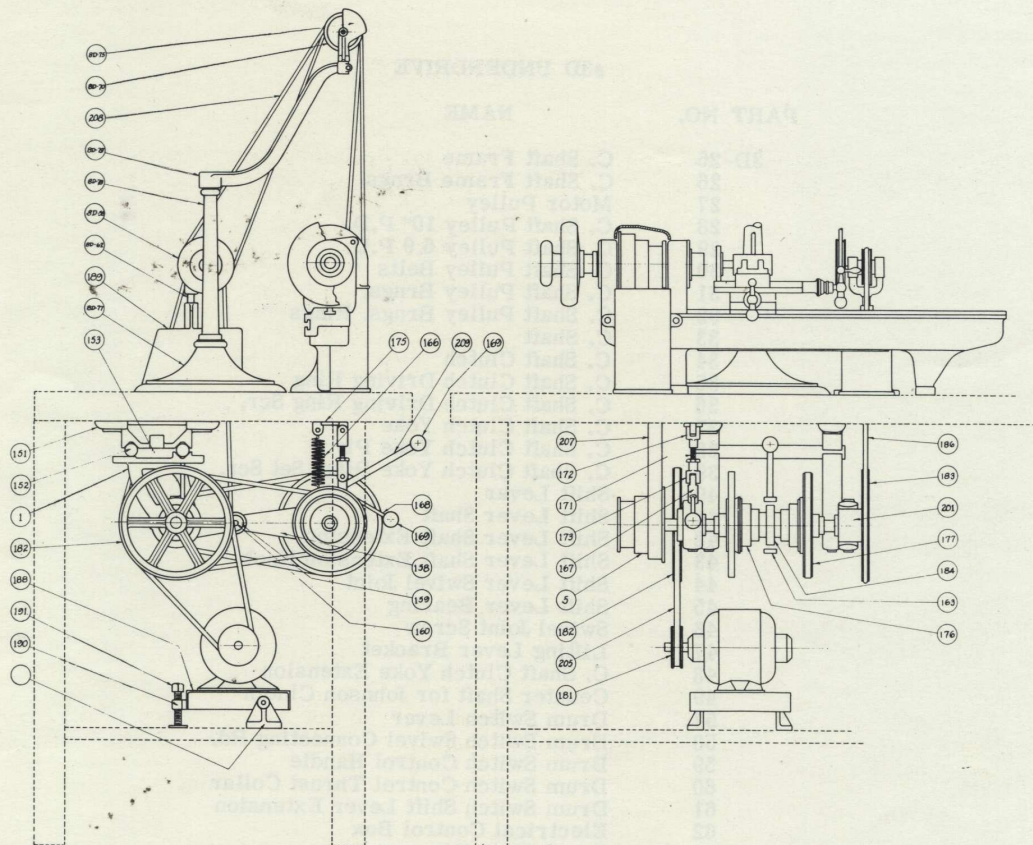

Fig. 1 Unit Motor Drive
The motor is mounted on an adjustable base. To tighten motor belt turn the screw clockwise. An eccentric is used to tighten the countershaft belts. See (160) Fig. 1. The main driving belt is tightened by adjusting 3D- 171.
When it becomes necessary to replace the V belts be sure not only to get the correct number but also to give both the lathe number and the belt number. To replace the V belts it is necessary to loosen 2 bolts, (A) Fig. 1 and slide the two round bars toward the headstock, now remove the bolt at the right side of the Counter shaft bracket entirely and the old belt may be slipped off and the new ones put in place. It is now necessary to slide the base back into position and refasten the bolts.